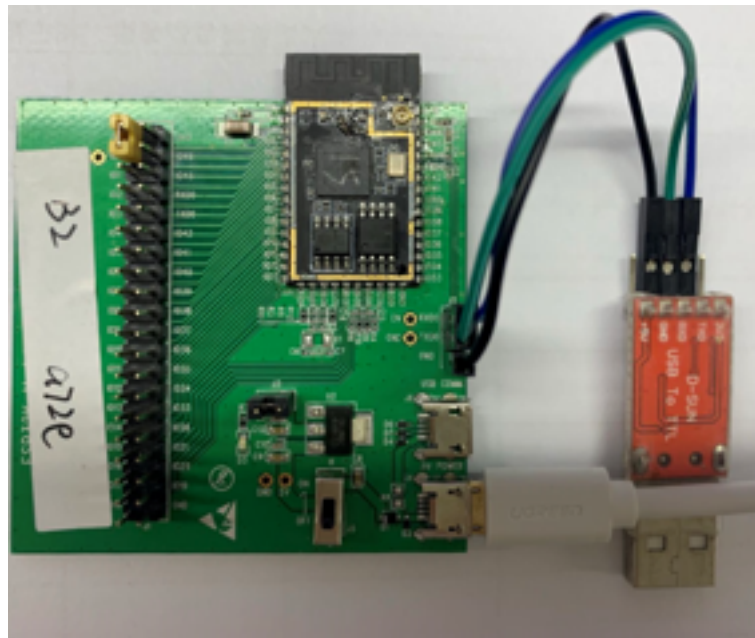

Figure 2: Testing Environment Setup(Needs Update)
1. Solder ESP32-WATG-32D to the Carrier Board, as Figure 2 shows.